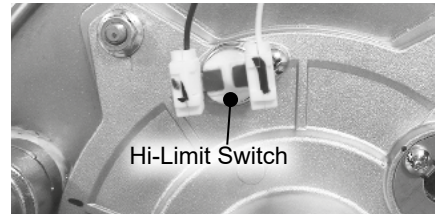

Figure 1 - Hi-Limit location
4 Locate the burner door hi-limit on the burner assembly as shown in Figure 1. Disconnect the two (2) wire leads (labeled HIGH LIMIT 1) from the hi-limit assembly and route them inside the water heater cabinet for ease of access to hi-limit. See Figure 1.